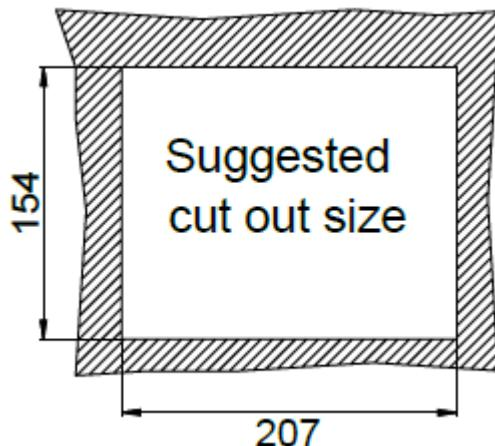
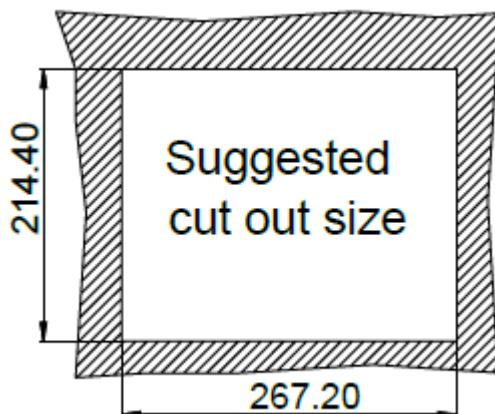

Figure 3-23: PPC-F08B-BT Panel Cutout Dimensions
Figure 3-24: PPC-F10B-BT Panel Cutout Dimensions
Step 3: Cut out a section of the panel that corresponds to the rear panel dimensions of the PPC-F08B/F10B-BT. The recommended cutout sizes are shown below (**Figure 3-23** and **Figure 3-24**).